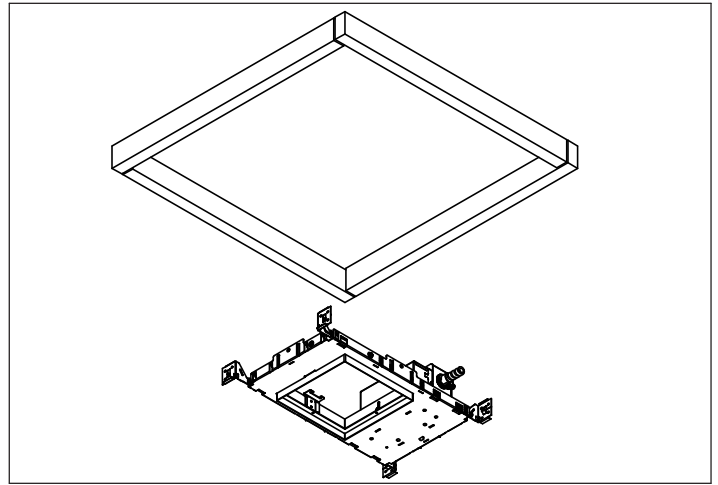

Figure 2
2. Raise Housing Assembly into ceiling. (Fig. 2)